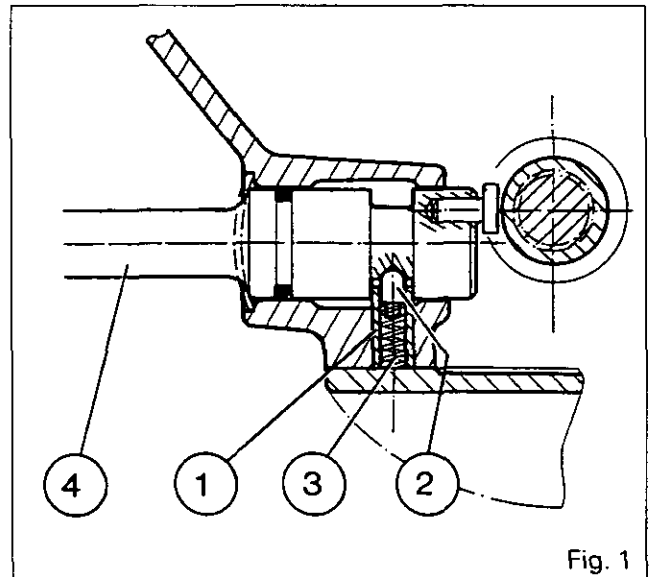

Fig. 1
3. Remove the bolts (10) and the cover (17).
Note : *On tractors with a ground speed PTO (G.S. PTO), recover the spring (3), the plunger (2) and the retaining tube (1) (Fig. 1).*